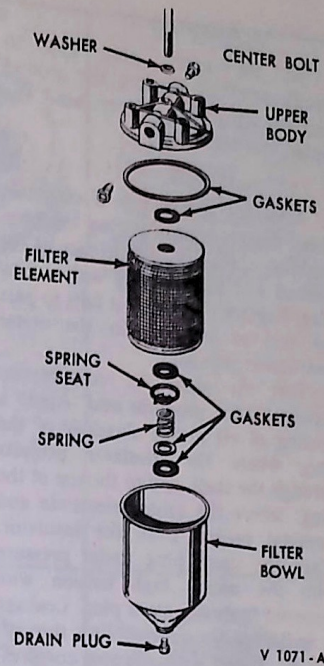

FIG. 70 Fuel Filter Assembly
2. Remove the center bolt and washer, then remove the filter bowl and mounting gasket (Fig. 70). Remove the filter element, gaskets, spring and spring seat.
4. Position the spring seat, spring and new lower gaskets in the filter bowl as shown in Fig. 70. Install a new element in the filter bowl. Position the filter and new upper gaskets against the upper body. Install and tighten the center bolt and washer.